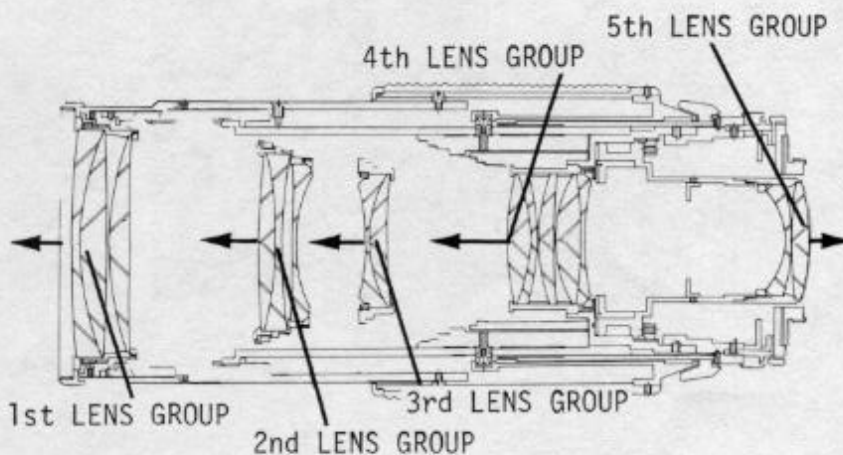

Fig. 57
- 9.1.6 Use the following Vivitar tools as indicated to remove and replace Lens Groups. (Fig. 57)